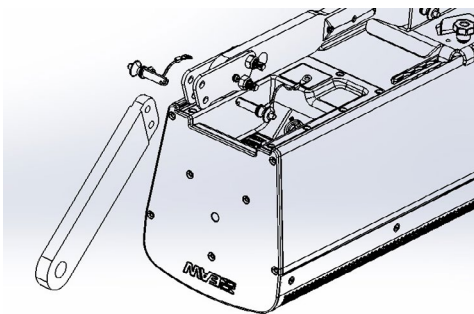

Figure 12 - Attach Mohawk to Stinger
- Attach Mohawk with pins at the end of the stinger (Figure 12)